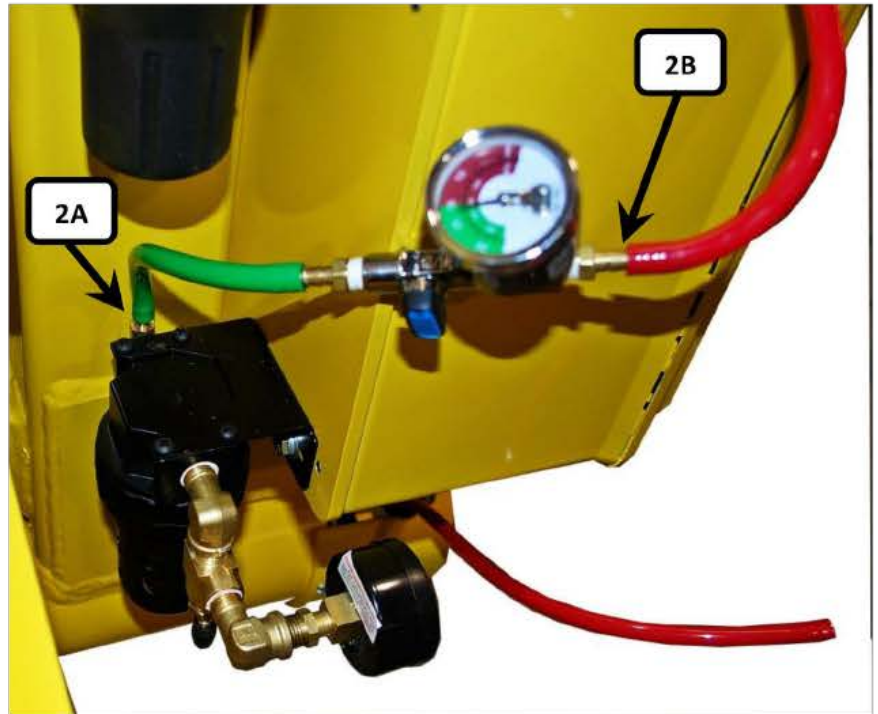

FIGURE 2
- 2) With the ball valve in the open position (handle in line with the valve) turn on the lifter and switch the lifter to the apply position. Allow the system to reach a suitable vacuum level or to shut off automatically, then close the ball valve (handle turned perpendicular to the valve as shown in FIGURE 2) and turn the lifter off at the power switch.